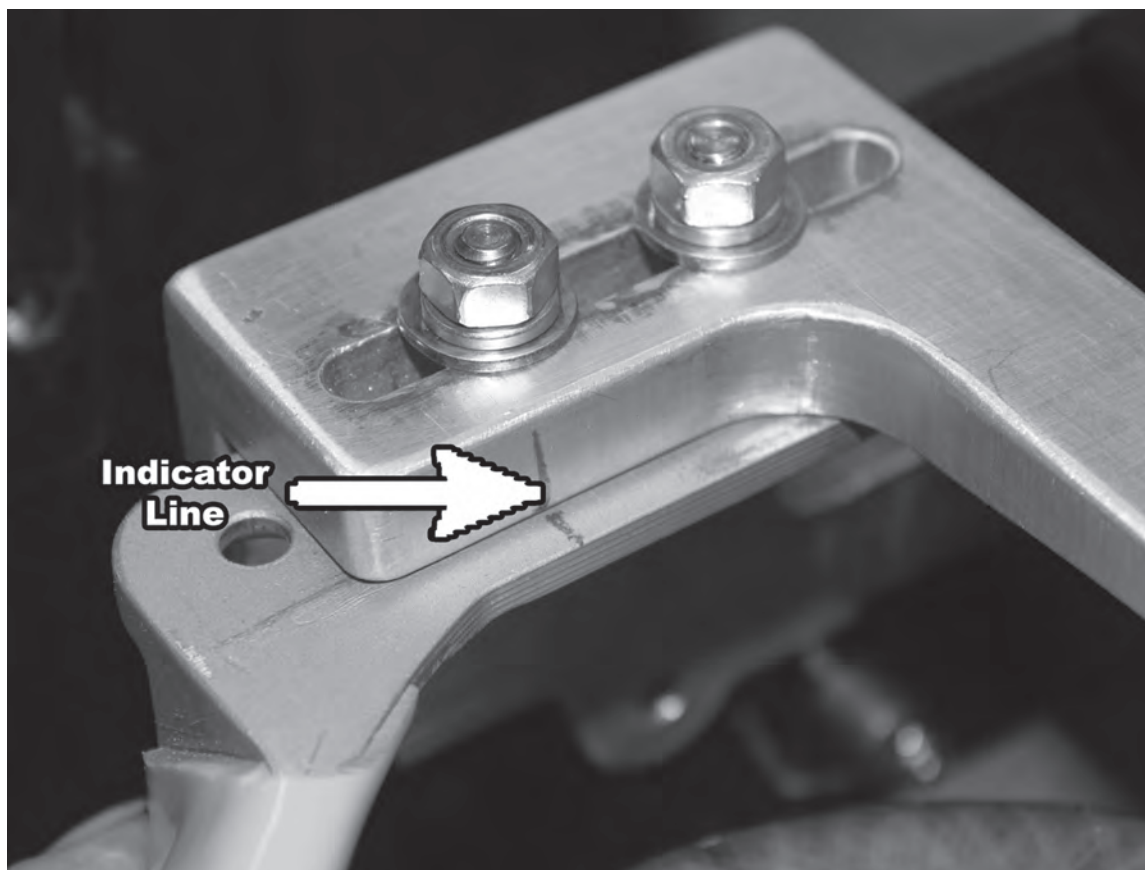

Figure 10
16. Push the EZ-LOC Clamp towards the Backplate until the air cylinder is parallel with the Backplate. When parallel, mark an indicator line on the EZ-LOC Clamp Base and EZ-LOC Clamp (see Figure 10, below).